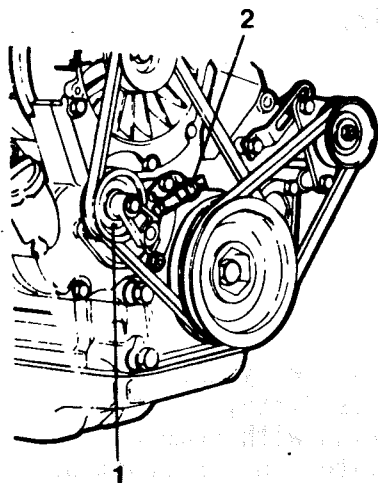

Fig 21 Checking the V-belt and V-belt monitor
- 2 At the same time, check that the fan V-belt monitor is in working order. The horn should sound with the V-belt monitor contact (2 in Fig 21) is depressed.